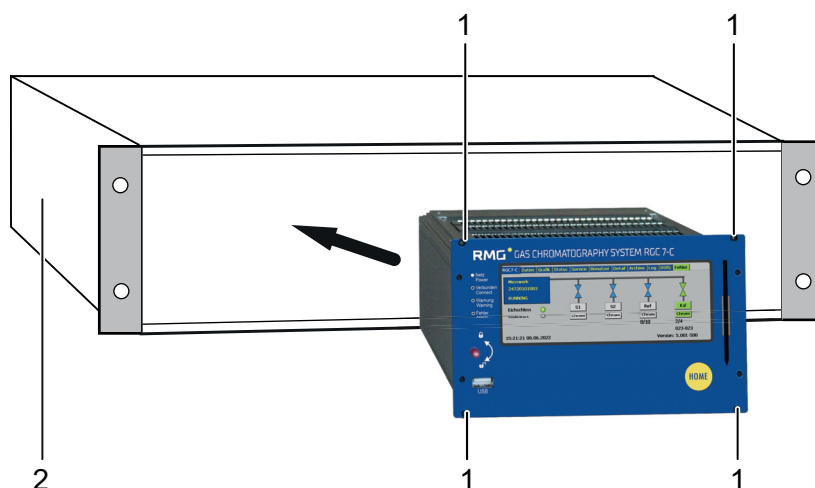

Fig. 6: Position of the screws on the front panel of the RGC 7-C
2. Place the RGC 7-C in the required position and slightly tighten the four screws (fig. 6, no. 1) with a cross-head screwdriver.